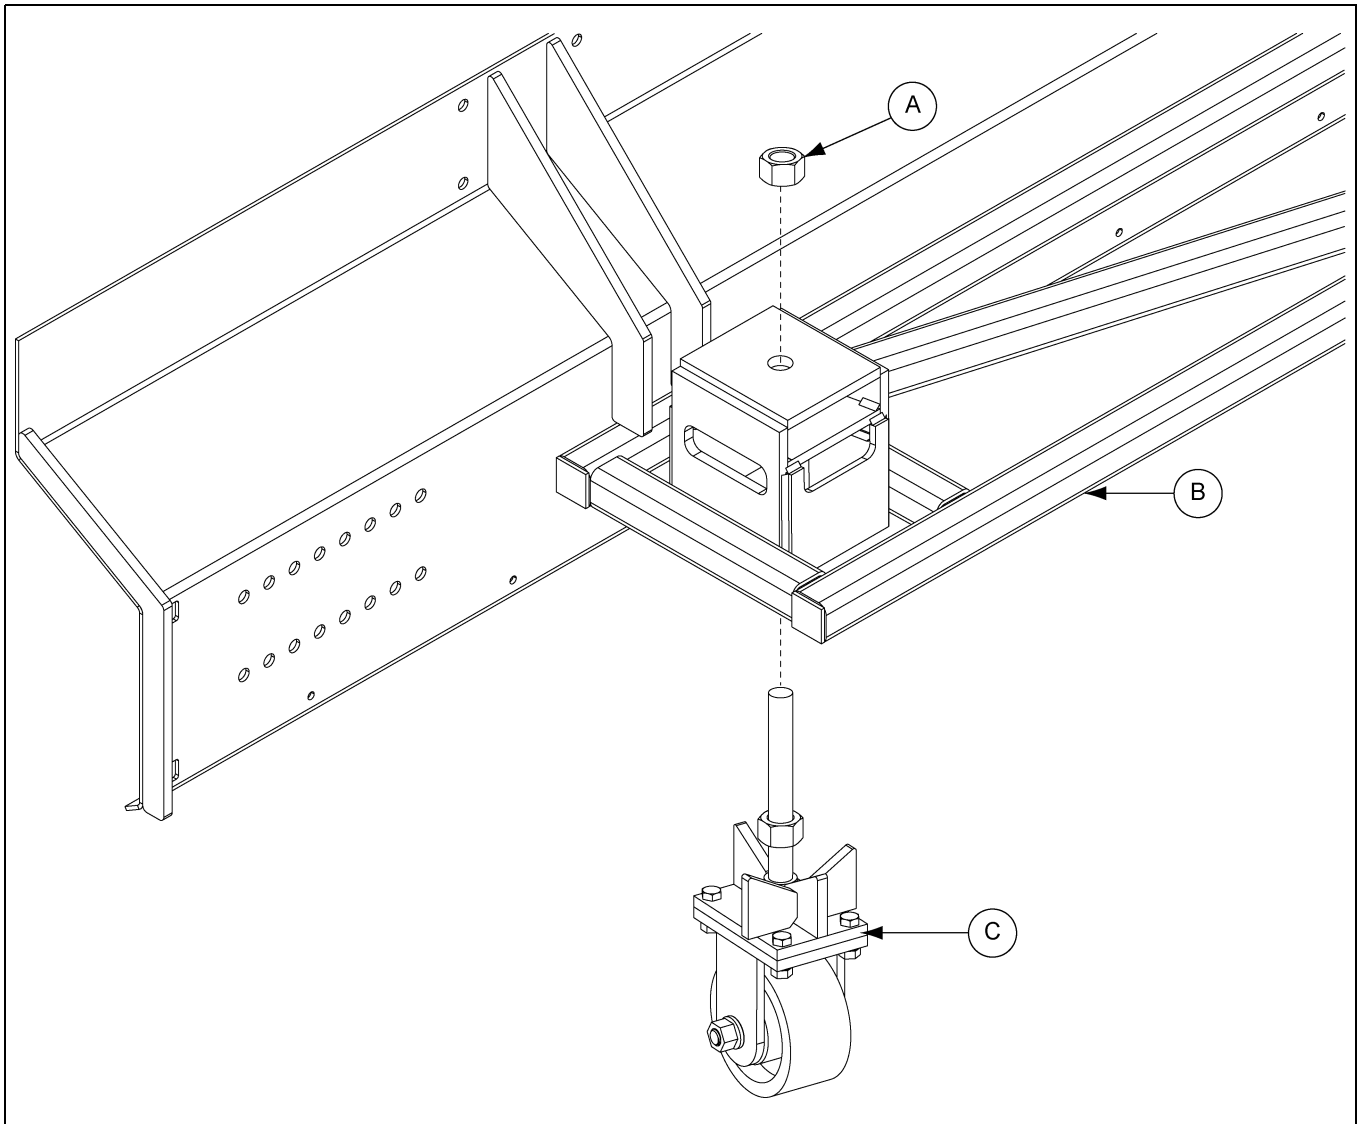

Figure 7B
1. Install all caster wheel assemblies (C) to all sweep shields (B). *(See Figure 7B.)*
2. Install hex nut (A) to caster wheel assembly (C).